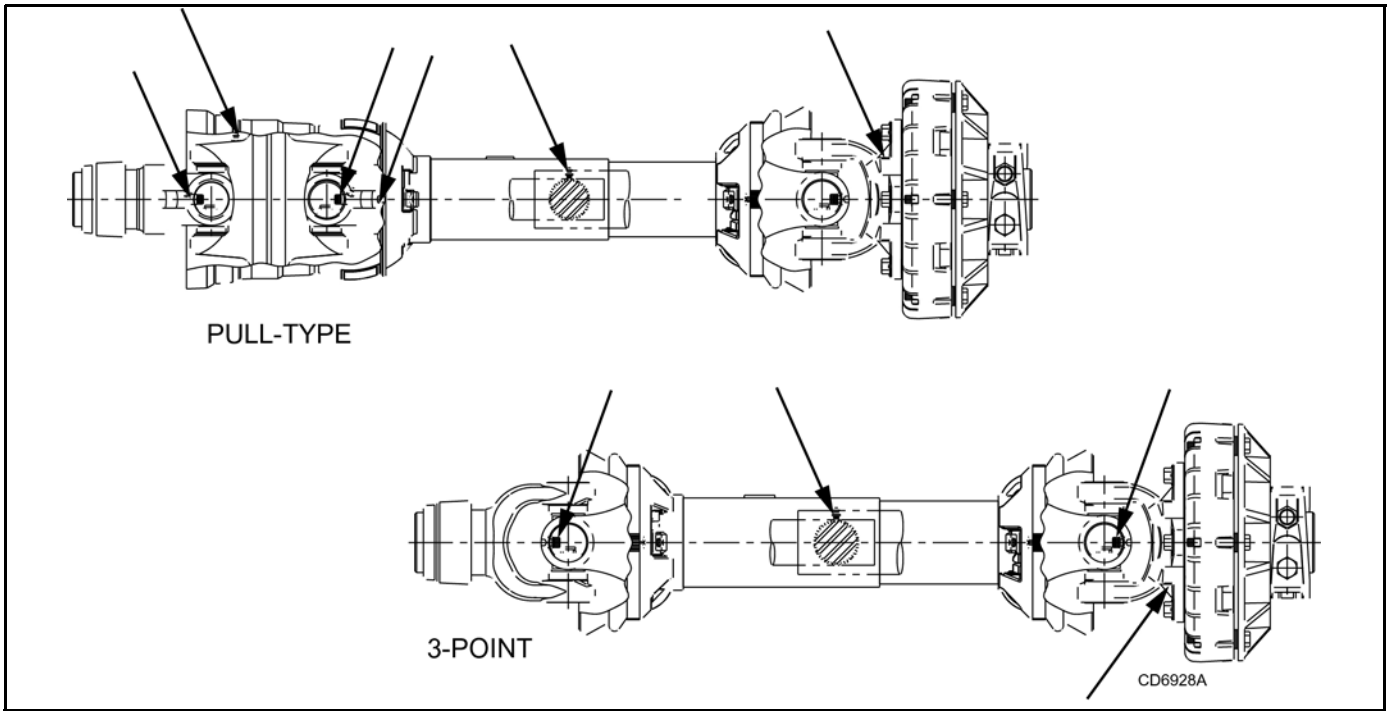

Figure 25. PTO Driveline Lubrication Points
PTO Driveline Lubricate daily or every 8 hours of operation. See Figure 25 for lubrication points.
1. Lubricate PTO driveline telescoping section (one location, Position B, Figure 25).